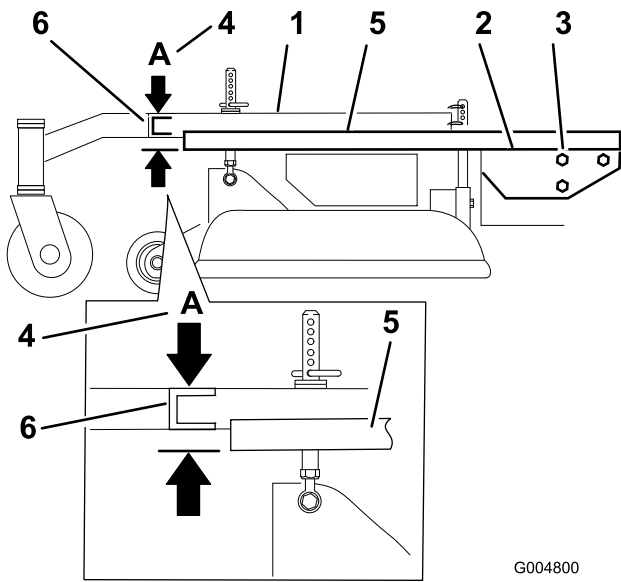

Figure 54
- Place a long straight edge on top of the engine deck as shown in Figure 54.
- At the carrier frame cross channel, measure the height at location A (Figure 54).
- Loosen the carrier frame mounting bolts on both sides of the machine (Figure 54).
- Align the carrier frame and engine deck to match 33 mm (1-5/16 inch), plus or minus 6 mm (1/4 inch) at location **A** (Figure 54).